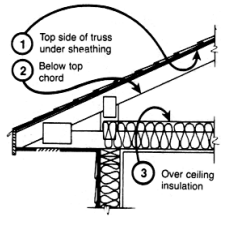

Figure 1. Typical attic section with three possible locations for a radiant barrier.
How and where to install radiant barriers is a hot topic today. There is strong disagreement as to where the barrier should go in an unheated attic. NESA recommends placement on top of the floor insulation in the attic (see Figure 1) in its training manual *Radiant Barrier Aspects and Applications* (see "Training Manual A Loser"). Eagle Shield, Inc. also recommends this placement, as will DuPont with its upcoming Tyvek radiant barrier.
They give two reasons: (1) Dust will accumulate on it and decrease its effectiveness; and (2) Moisture could collect on the underside of the radiant barrier, which could lead to rotting of the joists. Instead, they recommend either draping the radiant barrier over the tops of rafters before installing sheathing so that it hangs down a couple of inches, stapling it to the underside of the rafters (see Figure 1), or attaching it to the decking prior to its installation. It's important to note that in all three